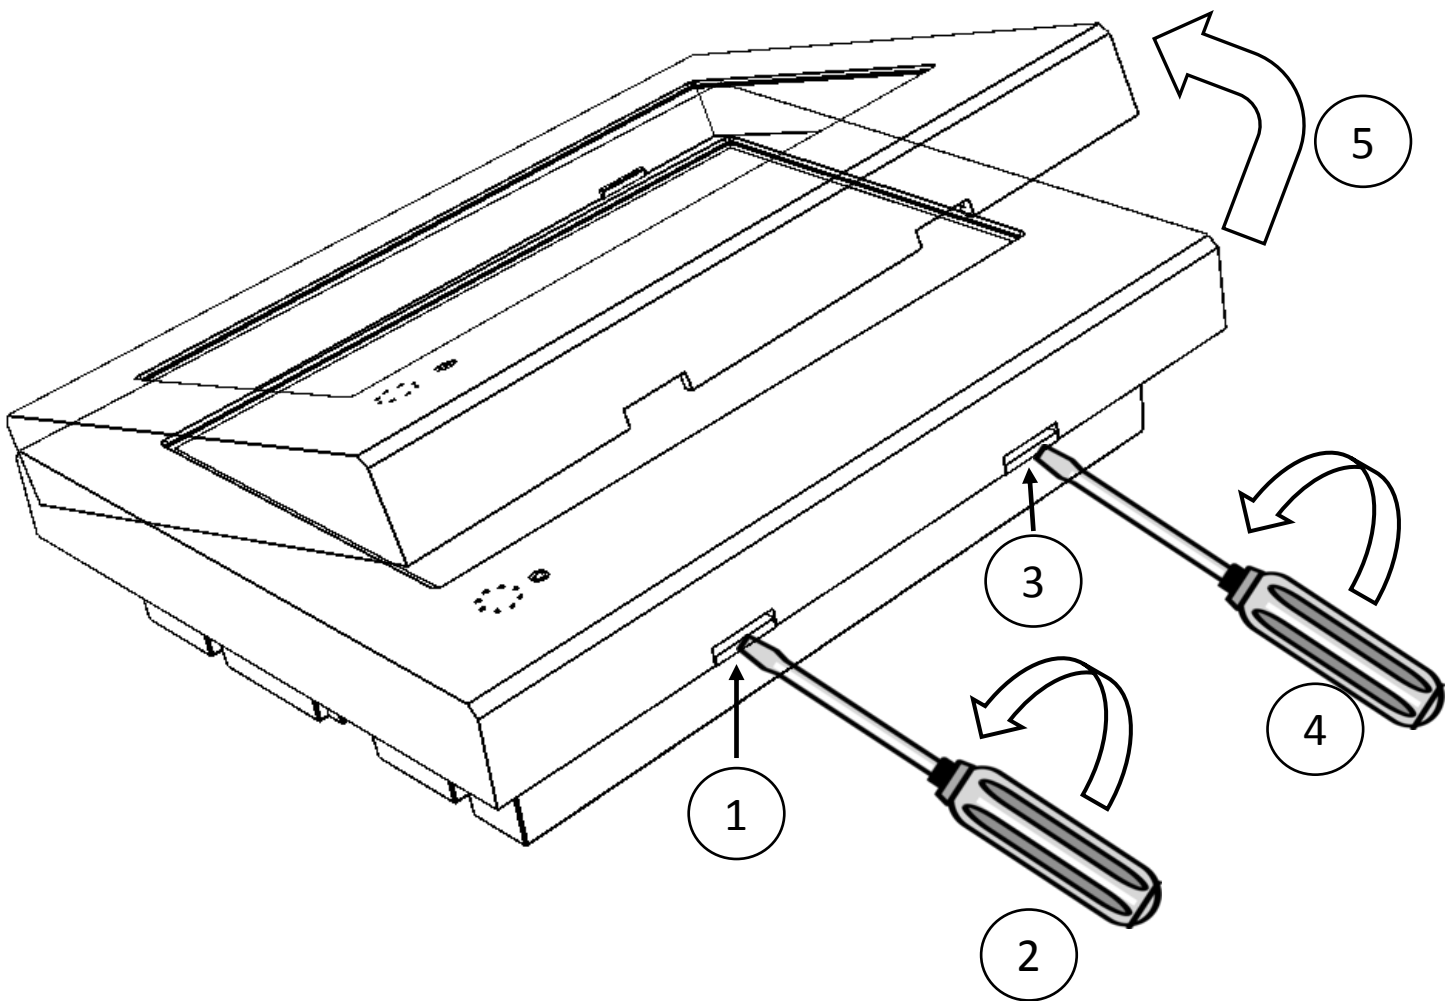

Figure 4 Remove Front Cover
To remove front cover of the panel, follow the sequence depicted in Figure 4
- Use wide flat screw driver to unlatch the two hooks (preferably two screw drivers simultaneously) from the bottom side of the panel and then lift up and unhook bottom edge of the front cover from the base of the panel as shown in Figure 4